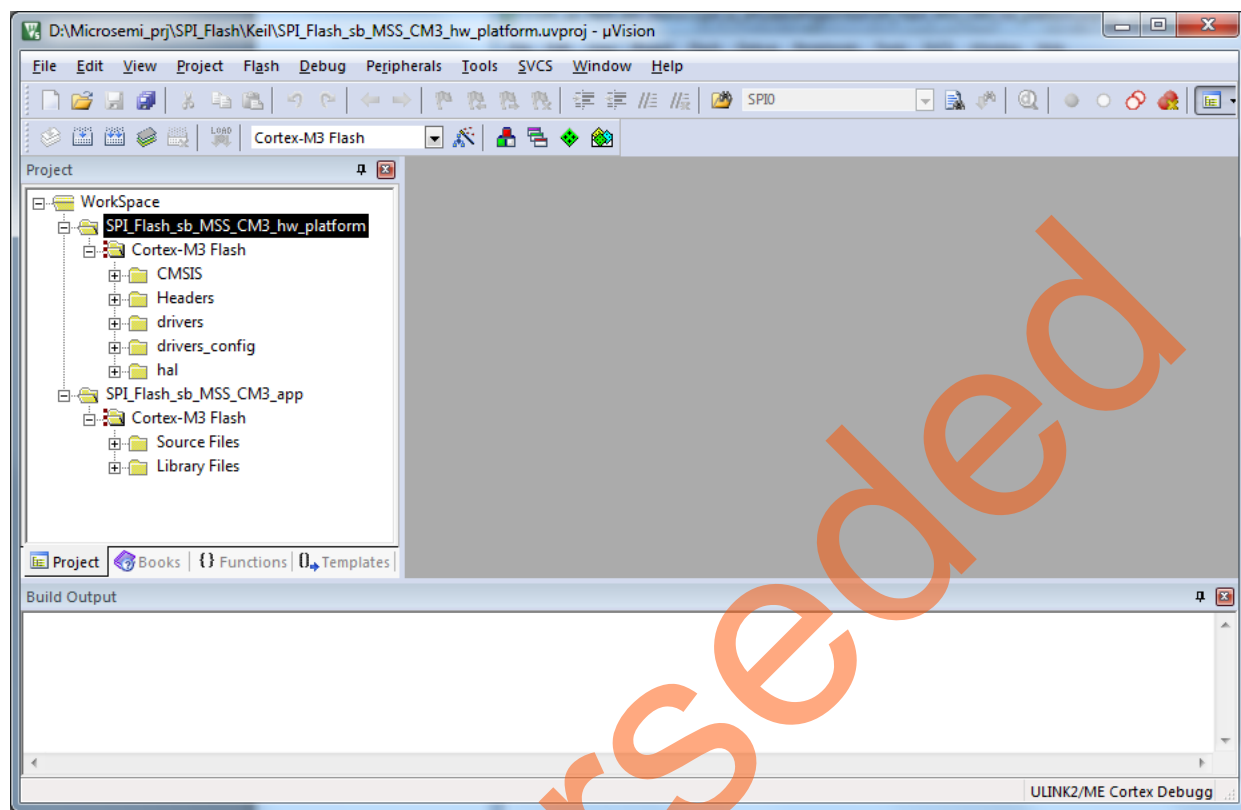

Figure 19 • uVision Workspace
2. The Keil workspace is displayed, as shown in Figure 19.